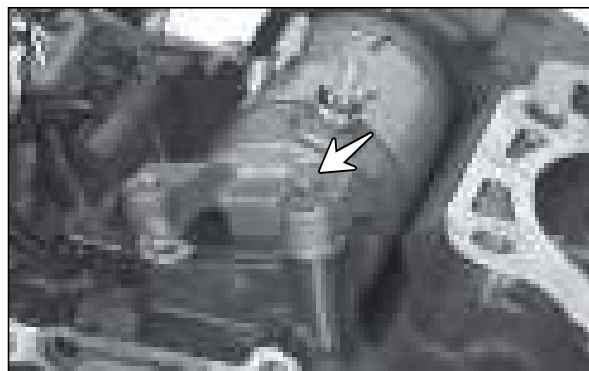

Fig. 3.128
- Remove the hexagonal flange bolt (M6x25 - 1 No.) from the starter motor and remove the motor assembly starter along with a 'O' ring. (Fig. 3.128)